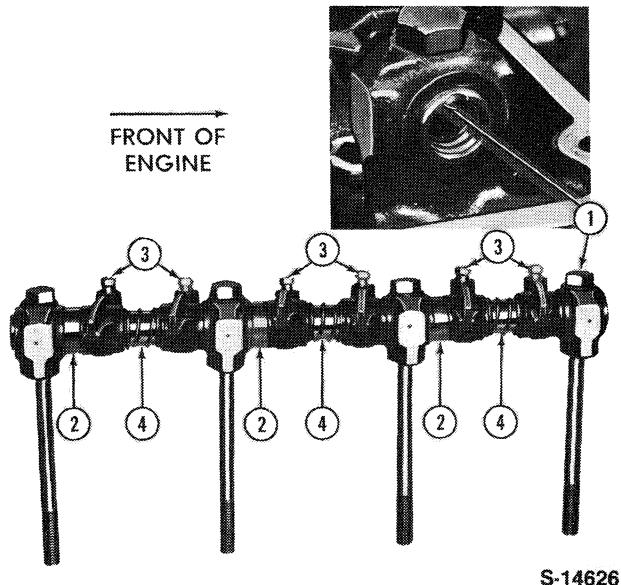

Figure 19
- Coat all components with engine oil and position the notch on the front of the rocker shaft upwards to correctly locate the oil holes, Figure 19.